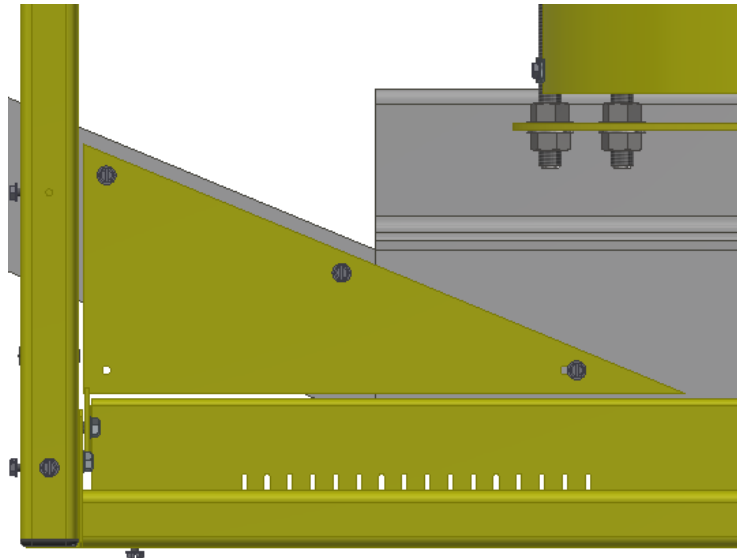

Figure 22: Machine Guard Motor Filler Panel Angled Base Corner Configuration
- For an angled base configuration the corner piece cut from the Machine Guard Motor Filler Panel (p/n \_ -242) can be secured inside the frame by following the same methodology as above if needed as shown below (Figure 22).